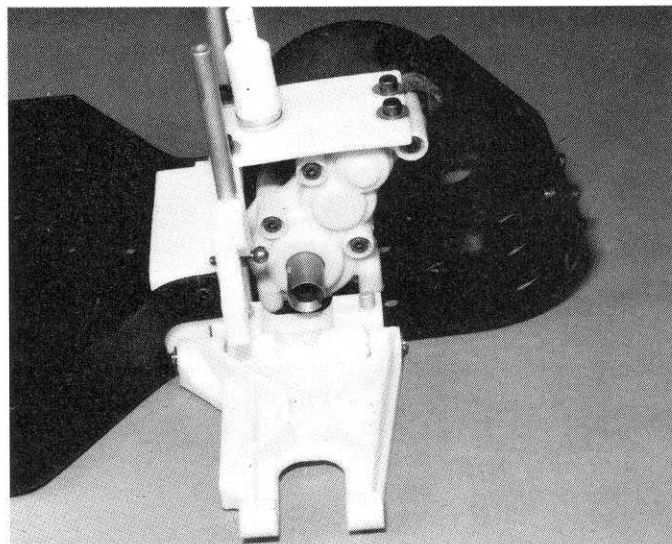

Fig. 82
□ **Fig. 82** Install the L.H. mount to the chassis with 2 Phillips screws as shown. Now, install the R.H. arm.